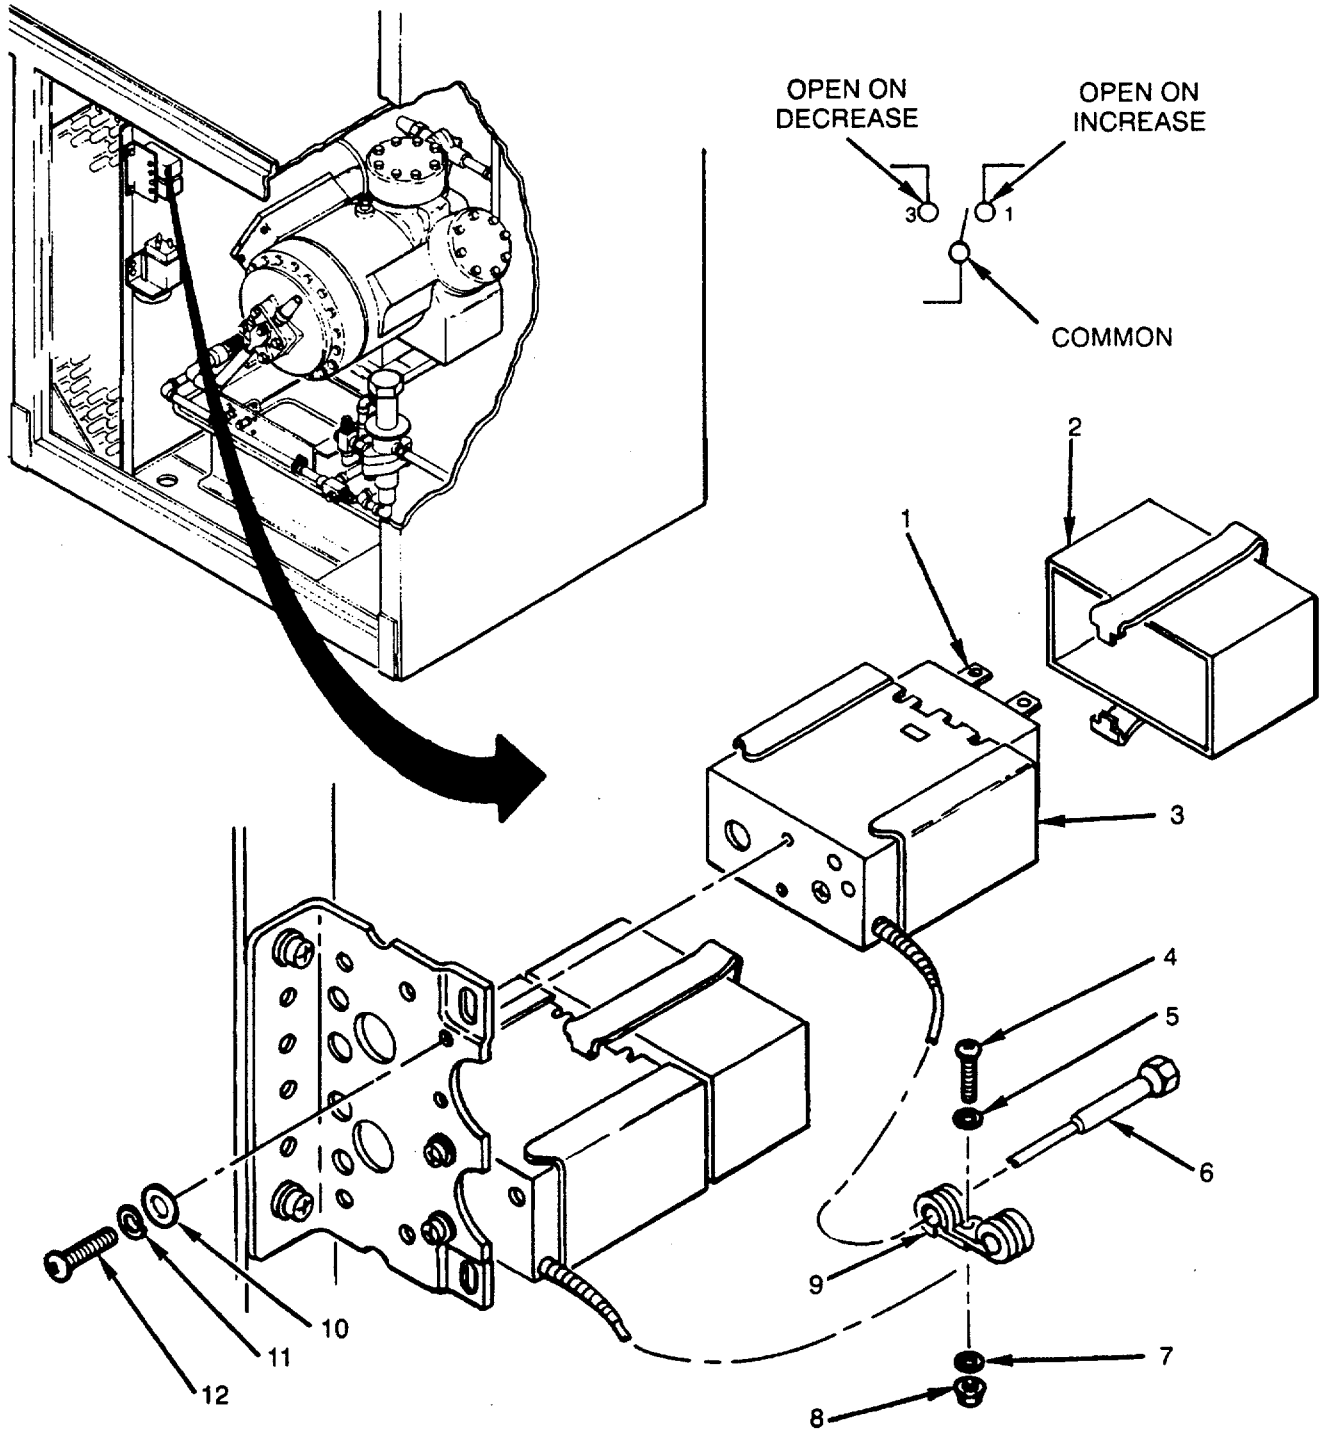

Figure 5-12. High Refrigerant Pressure Switch (S4)
1. Check that switch and cover are not dented, broken or cracked, replace switch and cover, if defective (see Figure 5-12).